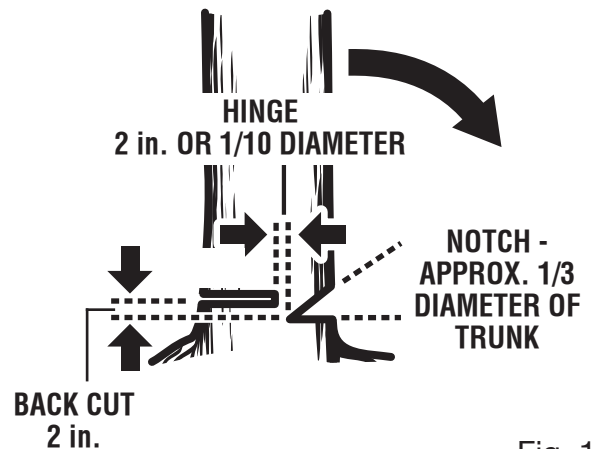

Fig. 13
- **Notched Undercut.** Cut a notch about 1/3 the diameter of the tree, perpendicular to the direction of fall. Make the cuts of the notch so they intersect at a right angle to the line of fall. This notch should be cleaned out to leave a straight line. To keep the weight of the wood off the saw, always make the lower cut of the notch before the upper cut. See figure 13.
- **Felling Backcut.** The backcut is always made level and horizontal, and at a minimum of 2 in. above the horizontal cut of the notch. See figures 13 - 14.
- Never cut through to the notch. Always leave a band of wood between the notch and backcut (approximately 2 in. or 1/10 the diameter of the tree). This is called “hinge” or “hingewood.” It controls the fall of the tree and prevents slipping or twisting or shoot-back of the tree off the stump. See figures 13 - 14.